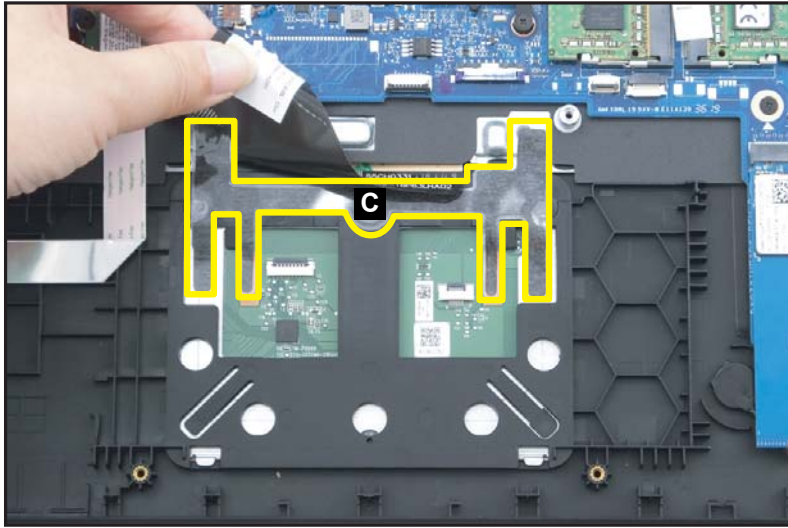

Figure 1-25. Touchpad Board Removal
3. Peel off and remove the touchpad conductive tape (C) from the touchpad module and top assembly (Figure 1-25).